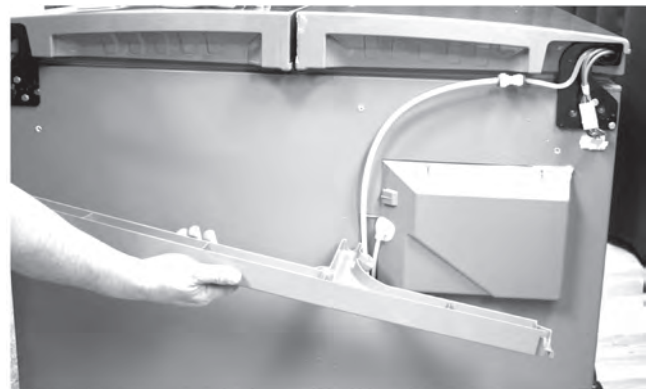

Figure 5
4. Remove the cover to expose the water tubes and wiring harness, see figure 5.